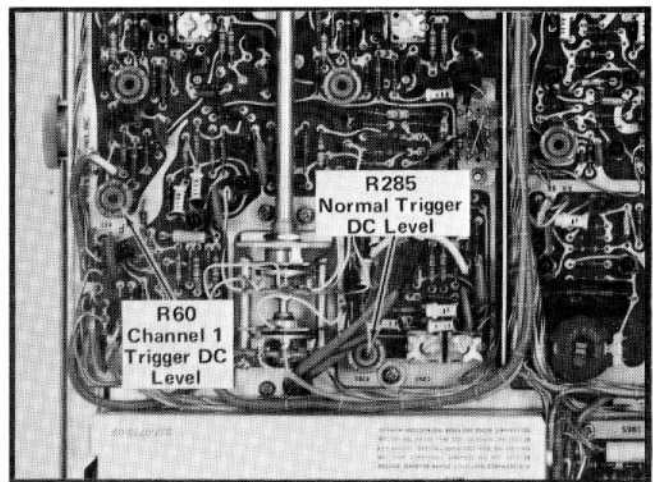

Fig. 5-12. Location of Triggering DC level adjustments (Vertical Preamp board).
d. ADJUST—Channel 1 Trigger DC Level adjustment R60 (see Fig. 5-12) for a stable display.
g. ADJUST—Normal Trigger DC Level adjustment R285 (see Fig. 5-12) for a stable display.